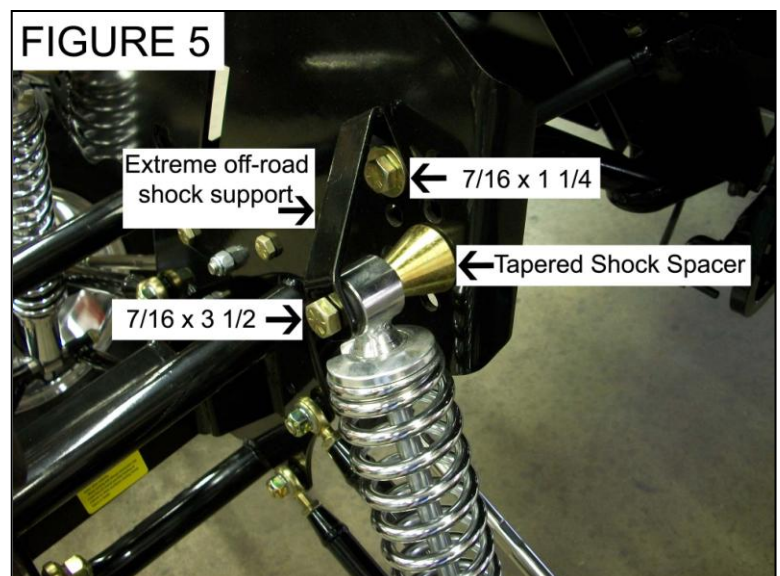

FIGURE 5
8. Mount Jakes coil over shocks to the top frame support (ITEM B) with the appropriate hardware (ITEM J) and shock supports (ITEM Z-1) as shown in Figure 5. **NOTE: The larger end of the shock spacer goes against the frame support.** **NOTE: There are several locations to mount your shocks. Outside holes are for a stiffer ride and inside holes are for a softer ride. The top hole on the outside is for a 4" lift. Each hole below lifts the cart an additional 1".**